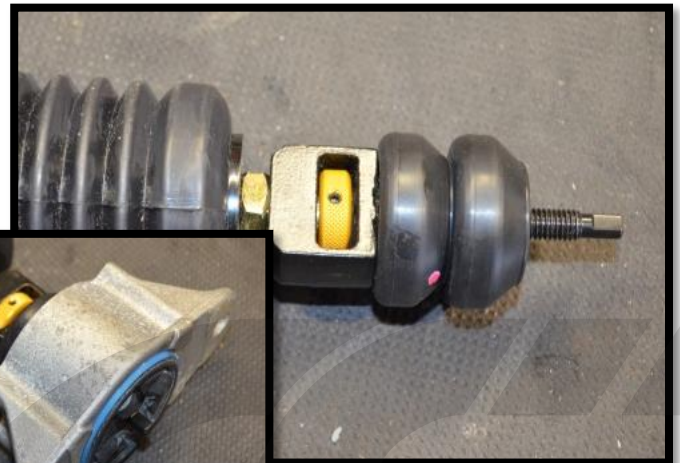

Figure 7a
a) **Swap the aluminum shock mount over to the CorkSport Adjustable Shock** and fasten with the 12mm nut torqued to 18ft-lbs. (Figure 7a).